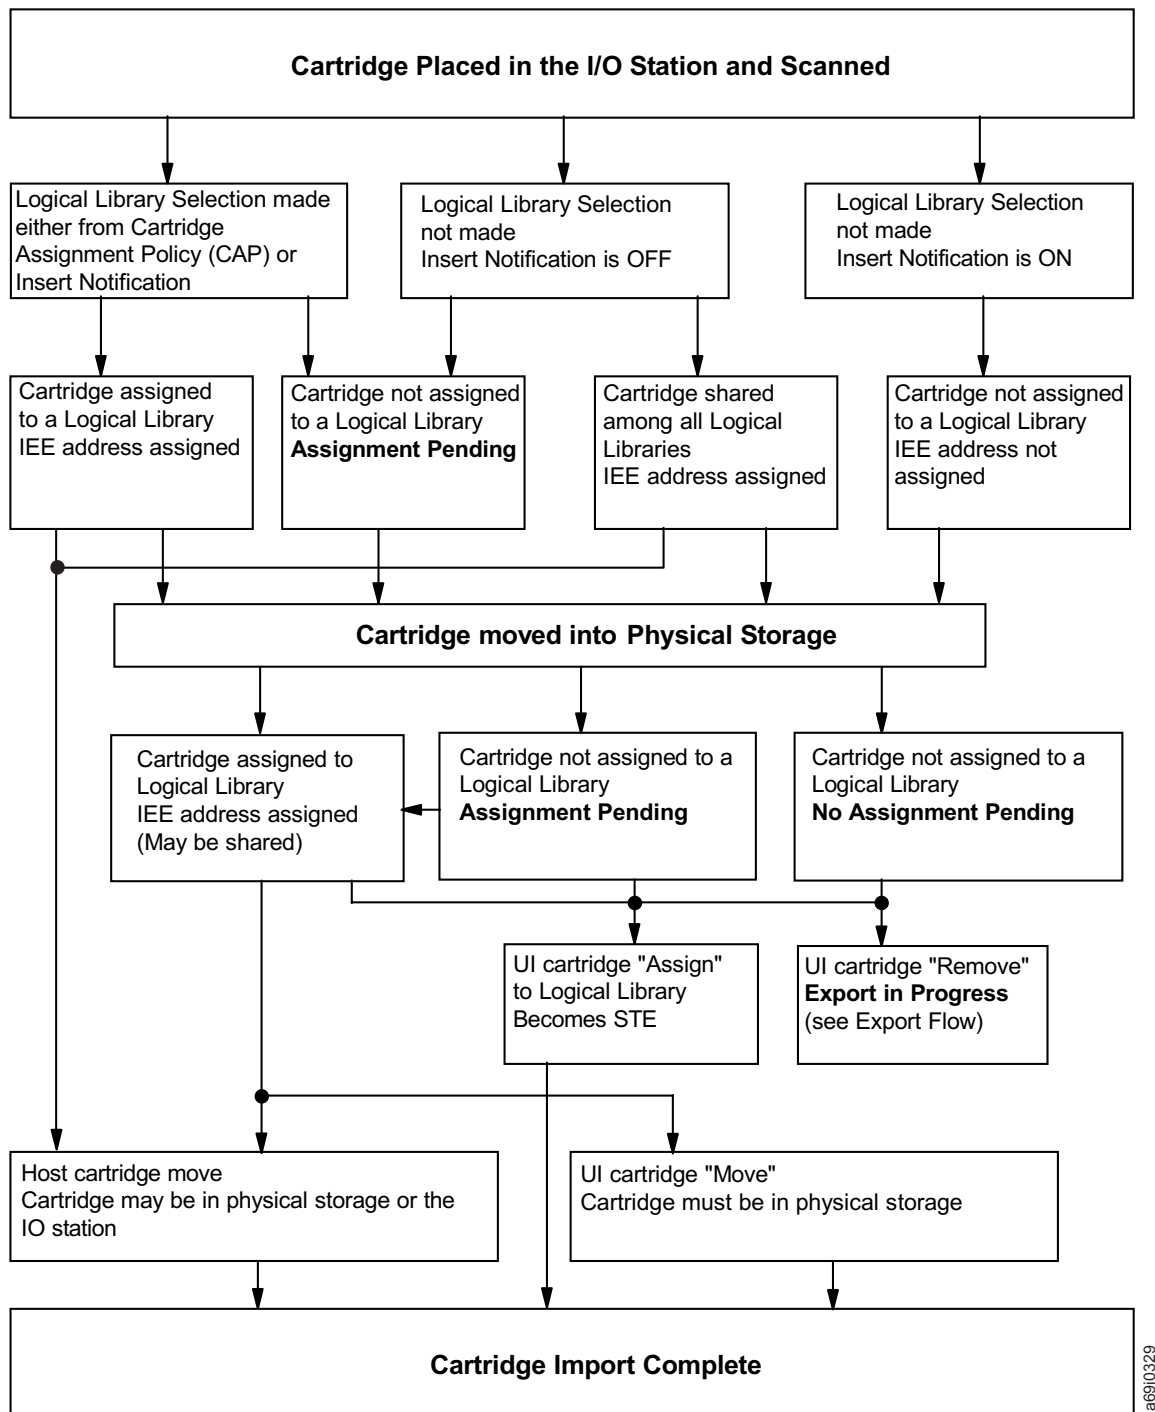

Figure 27. Scenarios for importing cartridges into the TS3500 Tape Library when virtual I/O slots are enabled
2. After you have seated the cartridges, the library will automatically move them into storage slots. How each cartridge is assigned to a logical library varies, depending on whether the cartridge assignment policy and insert notification features are set. For additional details, see Figure 27 on page 77.
- See Figure 27 on page 77, then follow the procedure in “Assigning cartridges to a logical library” on page 110.